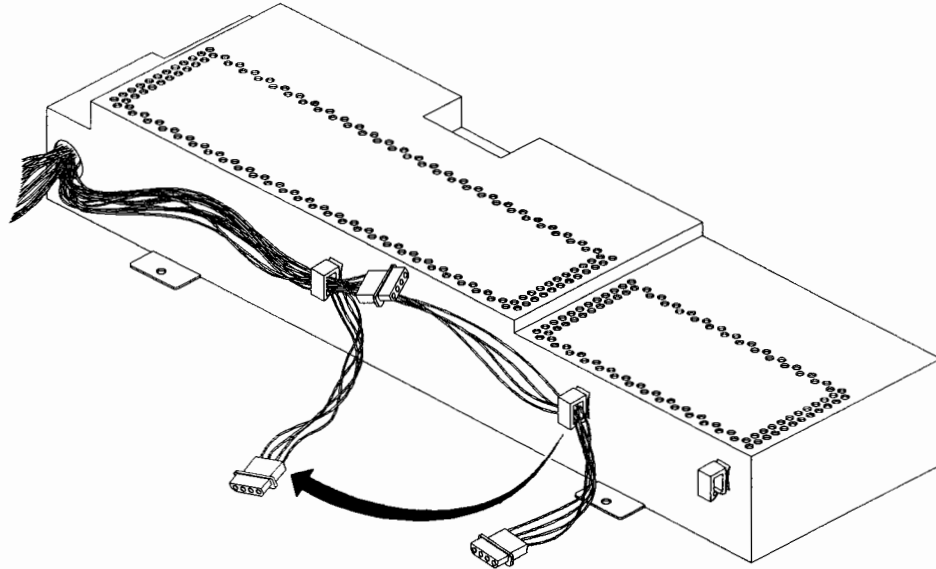
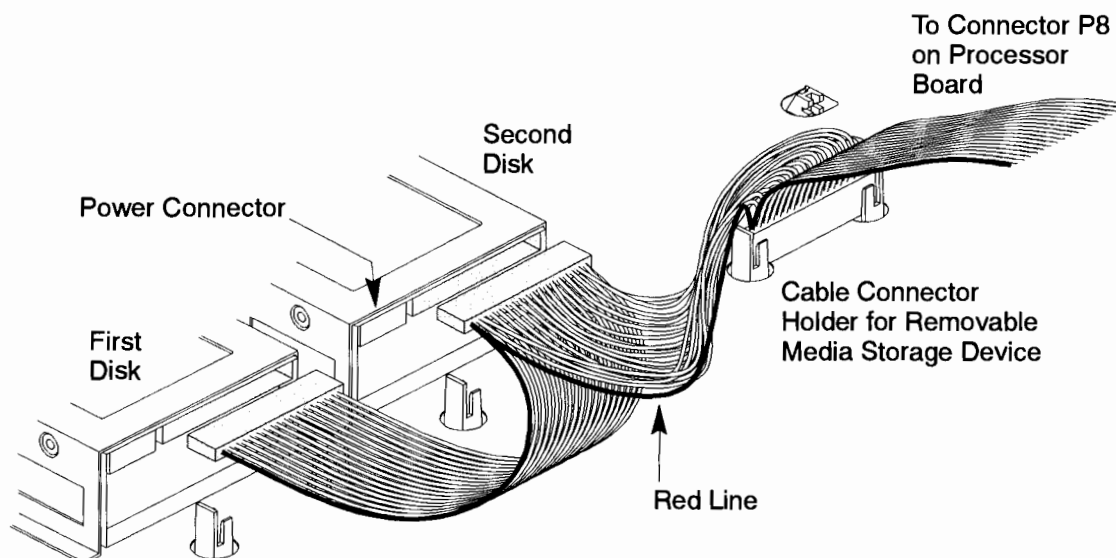

Figure B-39. Removing the Power Cable
Figure B-40. Connecting the SCSI Ribbon Cable to the Drive
5. Remove the power cable from the center clip on the power supply, as shown in Figure B-39. Plug the power cable into the power connector on the drive, which is shown in Figure B-40.
6. Remove the SCSI cable connector from its holder and plug it into the SCSI connector on the drive. The side of the SCSI cable with the red line (pin #1) **MUST** be positioned as shown in Figure B-40. Make certain that all connectors are fully seated.